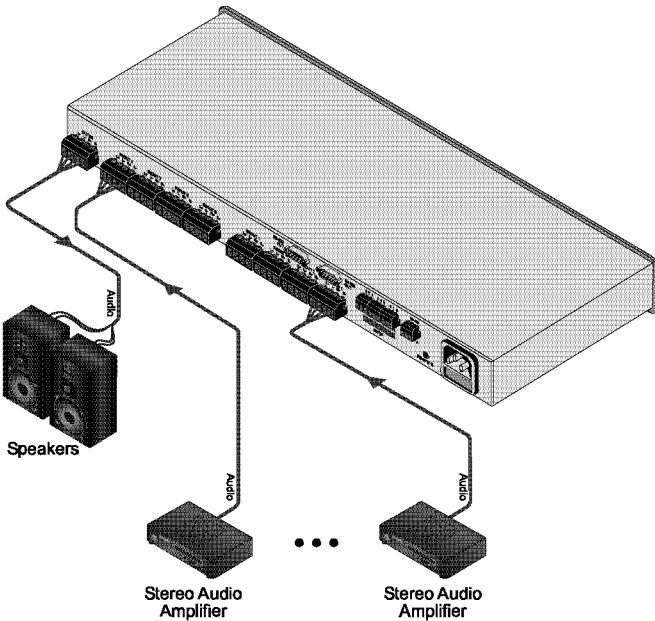

Figure 3: Connecting the VS-81SP – 8 Amplifiers to 1 Speaker Pair
**Note:** In a reverse configuration (see Figure 3), you can connect up to eight power amplifiers to the IN/OUT input connectors and one speaker pair to the OUT/IN output connector.